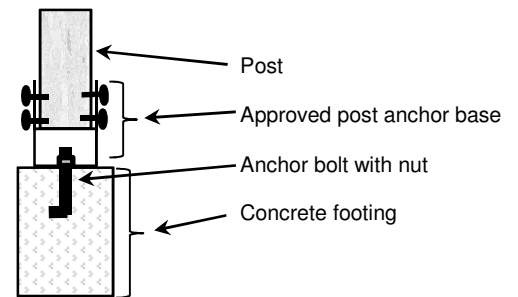

Figure 7
2. Pier holes shall be a minimum of 42 inches below grade and filled with concrete. A minimum 8 inch anchor bolt is required to be placed in the concrete pier. Posts are not to be installed below grade. Minimum post size shall be 4 inches by 4 inches. Minimum pier foundation diameter shall be 10 inches. All post to beam connections shall be made with galvanized or other approved corrosion resistant framing connectors. Pre-cast concrete pads placed on top of finished grade for deck supports are not permitted. See figure 7 for post connection to foundation.